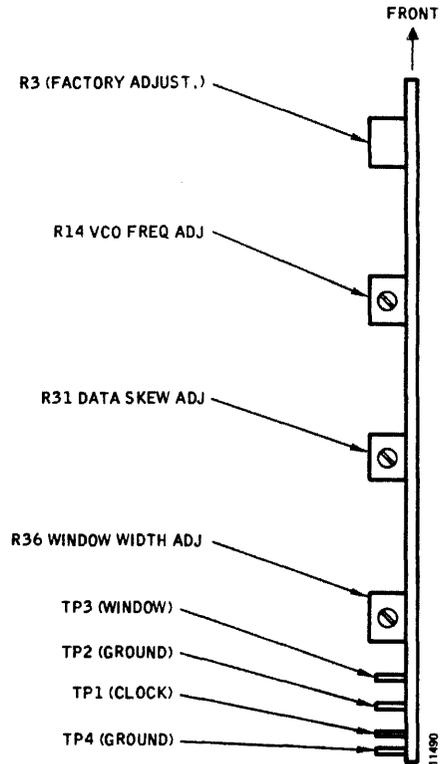

Figure 3-23. Data Separator Test and Adjustment Points (T80)
This procedure is the one appropriate to the type GR33 Data Separator cards used in most recent Model T80 Disk Drives. All adjustment points are located on this card, which occupies slot 4 in the card cage. Adjustments are interactive, making it necessary to perform all steps in the alignment procedure in the order given. See Figure 3-23 for adjustment point locations.
10. Adjust potentiometer R14 (Figure 3-23), on the Data Separator card to position the trailing edge of the Channel 2 pulse exactly centered between the locations noted for Cylinders 000 and 800.